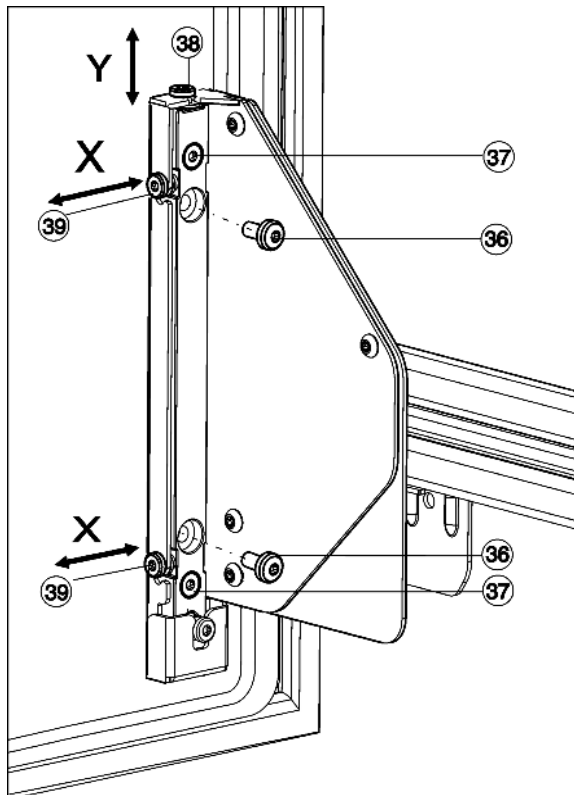

Fig. 31
- ▶ Fully screw out the screws Fig. 31 (36).
- ▷ Dispose of the screws Fig. 31 (36) as they will no longer be needed.
- ▶ Only loosen the screws Fig. 31 (37) with 1 to 2 turns.
- ▶ Turn the adjusting screw (38). In a clockwise direction: the door moves max. 4 mm upwards. In an anticlockwise direction: the door moves max. 2 mm downwards.
- ▶ Retighten all screws Fig. 31 (37).
- ▶ If the screws Fig. 31 (36) are still present, unscrew them fully.
- ▶ Adjust the adjusting screws Fig. 31 (39) according to the desired lateral adjustment direction.
- ▶ Retighten the screws Fig. 31 (37) after the lateral adjustment is complete.